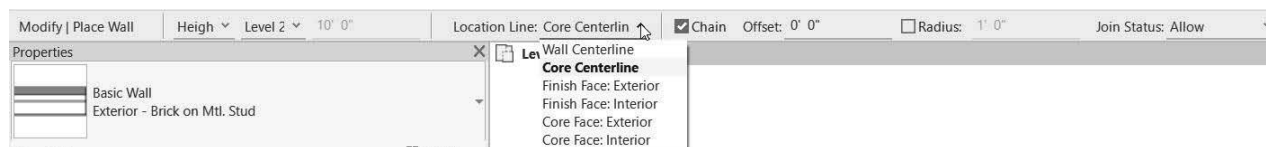

Figure 7-13
4. In the Options Bar (shown in Figure 7-13), specify the following information about the wall before you start modeling:
- *Location Line*: Set the justification of the wall using the options shown above in Figure 7-13.